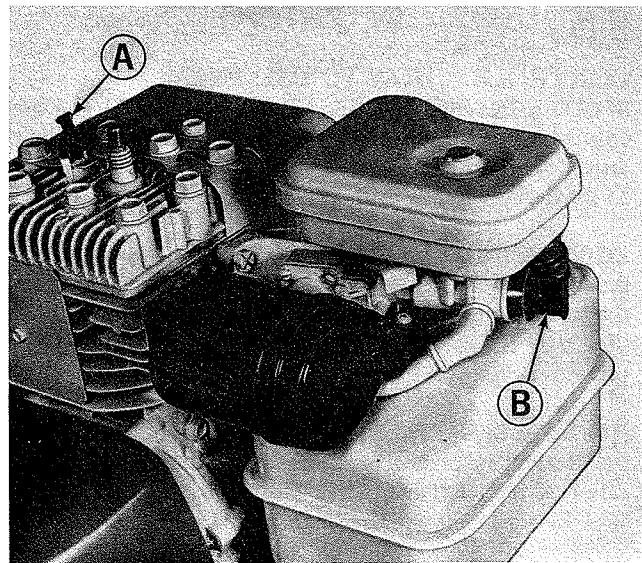

Figure 4. Engine seen from right rear.
2. See figure 4. Insure that the engine stop switch (A) is pulled up away from the spark plug.
3. Pull the choke control (B) out to the choke position as shown in figure 4.
3. Push the engine stop switch (Figure 4, Item A) down against the spark plug to stop the engine.